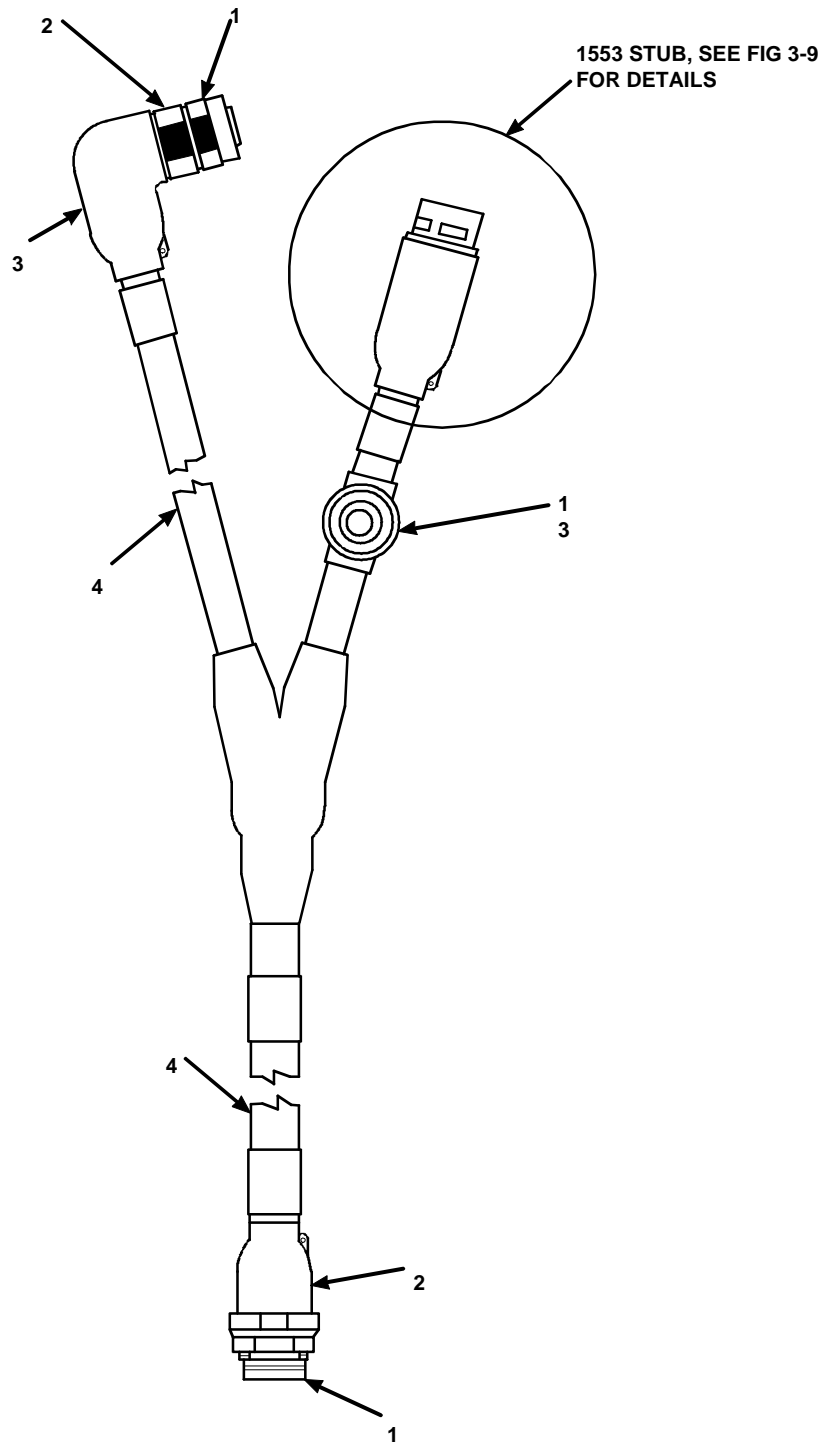

Figure 3-4. Power and Data Cable (5-Meter), P/N 12979005
**3.3.4 General Repair Requirements.** Refer to Figure 3-4. Repair or replace cable connectors as follows:
- n. Using small brush, clean sealing compound residue from threads of connector body (1 ) and backshell (2).
- o. Apply primer to threads of connector body (1 j and backshell (2).
- p. Apply sealing compound to threads of connector body (1 ) and backshell (2).
- q. Screw backshell (2) on connector body (1) and torque to 3.7 in. lb (5 N.m).
- r. Apply S1184 adhesive to inside of boot (3) to bond with cable shield and backshell (2).
- s. Apply S1125 adhesive inside of boot (3) for bonding to cable jacket (4) and backshell (2).
- t. Place boot (3) on backshell (2).
- u. Using heat gun, apply heat uniformly to boot (3) until boot shrinks to form secure seal around backshell (2) and cable (4).
**3.3.5 Inspection.** Refer to Figure 3-4. Inspect Power and Data Cable (5-Meter) as follows: